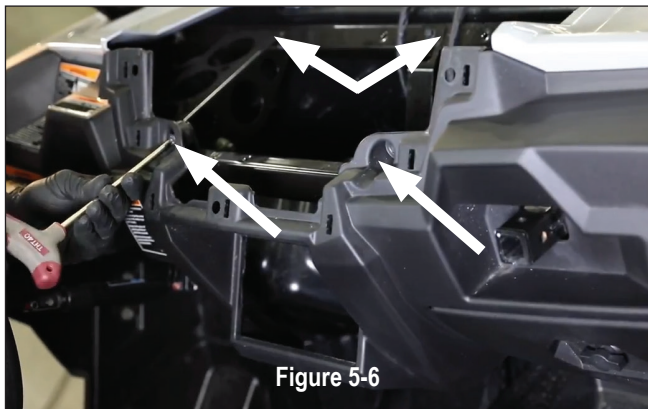
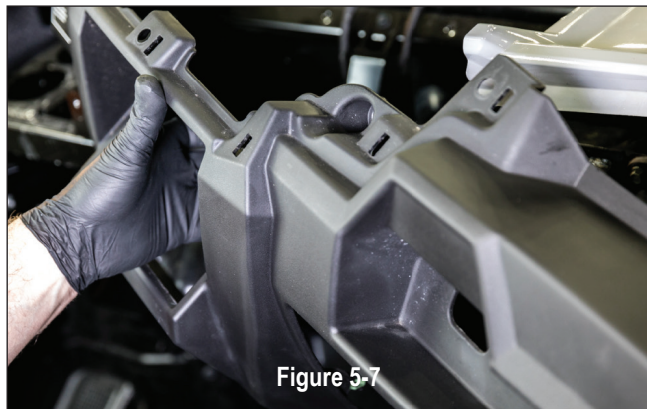

Figure 5-6
Figure 5-7
Remove (4) Torx screws from the front of the dash through the openings shown in Figure 5-6. The first set of Torx screws will come out allowing access to the second (upper) set further back in the dash. Next, pull the only the center of the dash loose as shown in Figure 5-7.